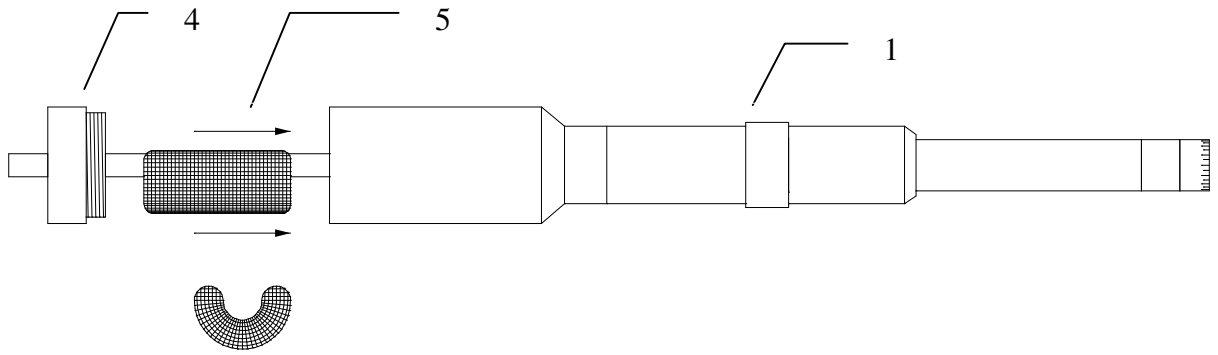

Fig. 2. Assembly of weatherproof microphone – step 2.
- Put desiccator cartridge (5) into microphone holder (1) and then close the holder using nut (4) (Fig. 2).